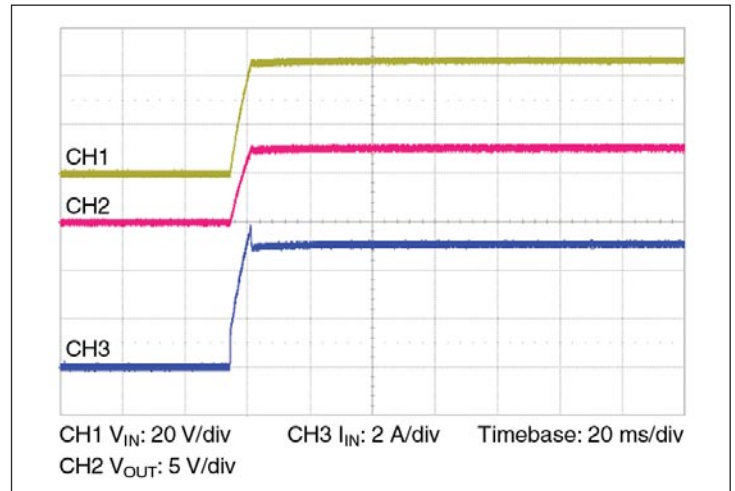

Figure 10 — Start up from application of V_{IN} ; VC pre-applied $C_{OUT} = 2300 \mu F$
- Normal operation (VC applied prior to V_{IN}): In this case the controller is active prior to ramping the input. When the input voltage is applied, the VTM module output voltage will track the input (See Figure 10). The inrush current is determined by the input voltage rate of rise and output capacitance. If the VC voltage is removed prior to the input reaching 26 V, the VTM may shut down.